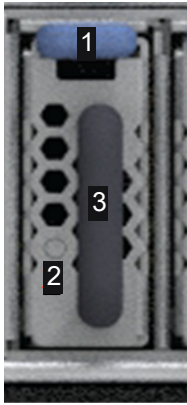

Figure 97. Removing the boot drive
7. Hold the boot drive handle (3) and press down on the release latch (1) towards the handle and pull to remove the boot drive. In Figure 97 on page 160, the faulty LED (2) location on the boot drive is shown.